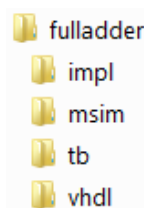

Figure 5: Directory structure
**Note: Omit special characters or blanks in the path name!** The directory `design` contains the directory `fulladder` with further subdirectories (see Figure 5).
The directory structure depicted in Figure 5 is a recommended setup for working with VHDL which has proven useful in practice. There are four subdirectories in this setup: